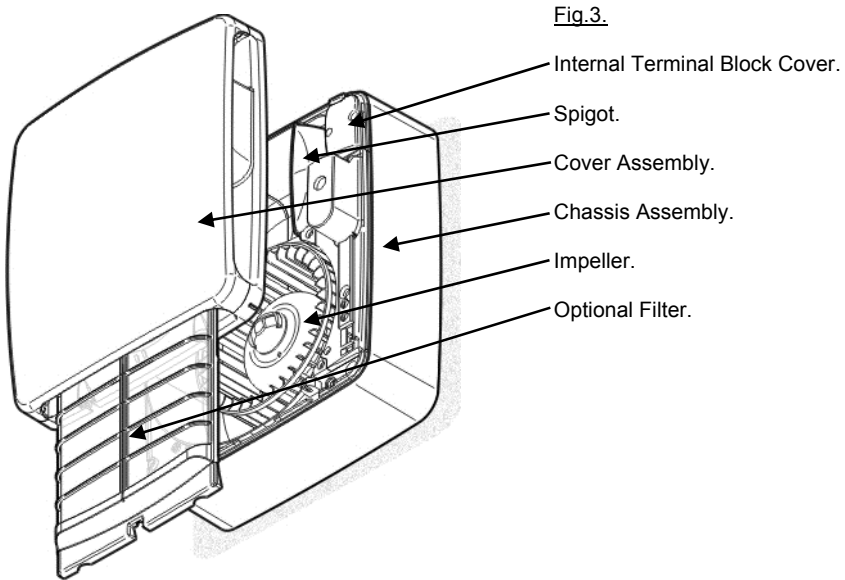

Fig.3.
2. Cut a $\varnothing 105\text{mm}$ hole and suitable screw holes in the panel, ensuring that there is sufficient space for the product to be installed and that the optional Filter (*fig.3*) could be removed for cleaning. The cardboard fitment in the packaging can be used as a template.
4. Remove the small Internal Cover that covers the Terminal Block in the top right corner (*fig.3*).
2. Cut a $\varnothing 117\text{mm}$ hole through the wall, ensuring that there is sufficient space for the product to be installed and that the optional Filter (*fig.3*) can be removed for maintenance. The cardboard fitment inside the packaging can be used as a template.
6. Remove the small Internal Cover that covers the Terminal Block in the top right corner (*fig.3*).
12. Ensure the Impeller (*fig.3*) rotates freely.
2. Mark and cut a rectangular hole 225mm (w) x 255mm (h) through the panel ensuring that there is sufficient space for the product to be installed and that the optional Filter (*fig.3*) can be removed for maintenance.
6. Remove the Internal Terminal Block Cover that covers the Terminal Block in the top right corner (*fig 3 & 4*).
11. Ensure the Impeller rotates freely (*fig.3*).
2. If you have a Filter (*fig. 3*), remove it by using a small, flat bladed screwdriver to lift the bottom edge over the retaining edge (*fig. 2*) and then slide the filter out.
4. Remove the Impeller (*fig.3*) by pressing the two clips together in the middle and pulling it off the Motor.